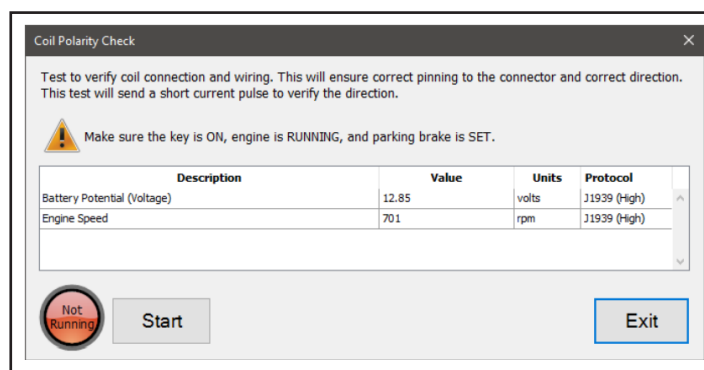

Figure 1 – Pressure Trimming Test
1. Select *Pressure Trimming Test* and press *Enter* or the *Start* icon. Test dialog will be displayed. See *Figure 1*.